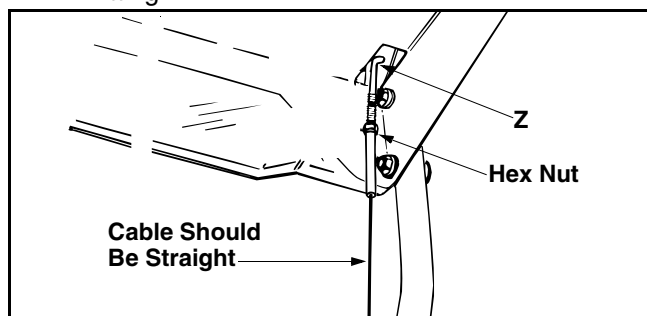

Figure 9
- If Z fittings are **not** already attached, thread hex nuts onto the “Z” fittings and insert “Z” fitting into hole in clutch grips. See Figure 9.